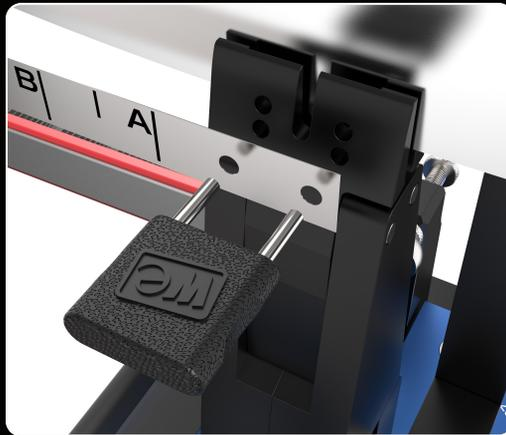

*Fig. 2*
**Step 1:** Attach your Guide Rods to the Ball-Joints by threading them into the rod ends as shown in *Figure 2*.
**Step 2:** Attach the #4 Vise Lever to the sharpener by sliding the square hole on the Vise Lever Block onto the square Cam Shaft, which is located toward the bottom of the #1 Vise, as shown in *Figure 2*. When attached, the lever should be to the right of the #1 Vise. Use the #5 Thumb Screw to secure the Vise Lever onto the Sharpener.